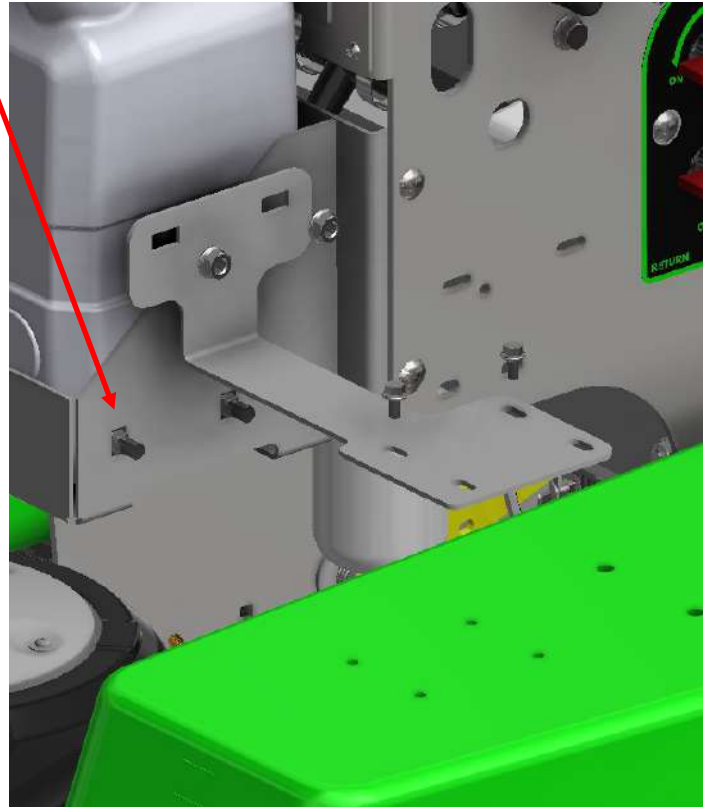

Fig 3
- (Fig 3) Attach the anti vibration bracket (supplied with the kit R21-208) to the “right side tank” using (2) CB-3834SS, (2) HFNCS-38, and (2) HFSSC-145(also supplied with the kit).